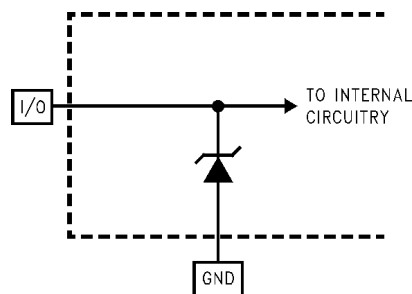

Figure 1.
- The inputs are protected as shown in Figure 1. Input voltage magnitudes up to 5V above V_A or to 5V below GND will not damage this device, provided current is limited per Note 3. However, errors in the A/D conversion can occur if the input goes above V_A or below GND by more than 100 mV. As an example, if V_A is 4.75V, the full-scale input voltage must be $\leq 4.85V$ to ensure accurate conversions.
- (1) The inputs are protected as shown in Figure 1. Input voltage magnitudes up to 5V above V_A or to 5V below GND will not damage this device, provided current is limited per Note 3. However, errors in the A/D conversion can occur if the input goes above V_A or below GND by more than 100 mV. As an example, if V_A is 4.75V, the full-scale input voltage must be $\leq 4.85V$ to ensure accurate conversions.
- (2) To guarantee accuracy, it is required that $|V_A - V_D| \leq 100mV$ and separate bypassed capacitors are used at each power supply pin.
- (3) With the test condition for $V_{REF} = +2.0V$, the 12-bit LSB is 488 μV .
- (4) Timing specifications are tested at the TTL logic levels, $V_{IL} = 0.4V$ for a falling edge and $V_{IH} = 2.4V$ for a rising edge. TRI-STATE output voltage is forced to 1.4V.
- (5) Typical figures are at $T_A = T_J = 25^\circ C$, and represent most likely parametric norms.
- (6) Tested limits are guaranteed to TI's AOQL (Average Outgoing Quality Level).
- (3) Typical figures are at $T_A = T_J = 25^\circ C$, and represent most likely parametric norms.
- (5) Tested limits are guaranteed to TI's AOQL (Average Outgoing Quality Level).